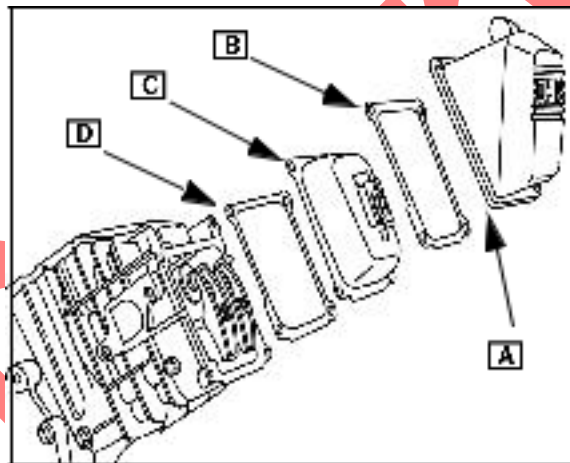

Fig. 27
Remove valve cover. Breather assembly (C) and gasket ([D] Fig. 27) will come off with valve cover.
1. Install gasket (D), breather assembly (C), gasket (B), and valve cover ([A] Fig. 27) to cylinder head.